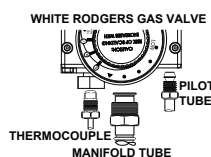

FIGURE 31.
6. Disconnect the thermocouple (right-hand thread), pilot tube, the igniter wire from the igniter button, the two connectors attached to the thermal switch, and manifold tube at the gas control valve/thermostat. (Figures 31 & 32.) **NOTE:** L.P. Gas systems use reverse (left-hand) threads on the manifold tube.
5. Disconnect the igniter wire from the igniter. NOTE: There are two types of igniters. If you have the square igniter, slide the igniter bracket backwards away from the gas valve to remove it. If you have the round igniter, first remove the igniter from the bracket by depressing front and rear holding tabs and lift. Next, remove the igniter bracket from the gas valve. Disconnect the thermocouple (right-hand threads), pilot tube, and manifold tube at the gas control valve/thermostat (Figure 31). NOTE: L.P. gas systems use reverse (left-hand) threads on the manifold tube.